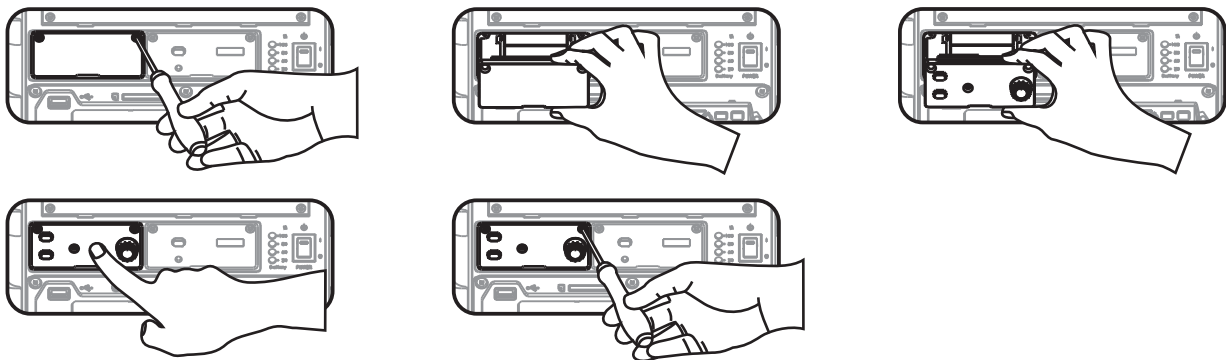

Fig. 11
3. Installation or replacement of wireless receiver modules. Fig. 11.